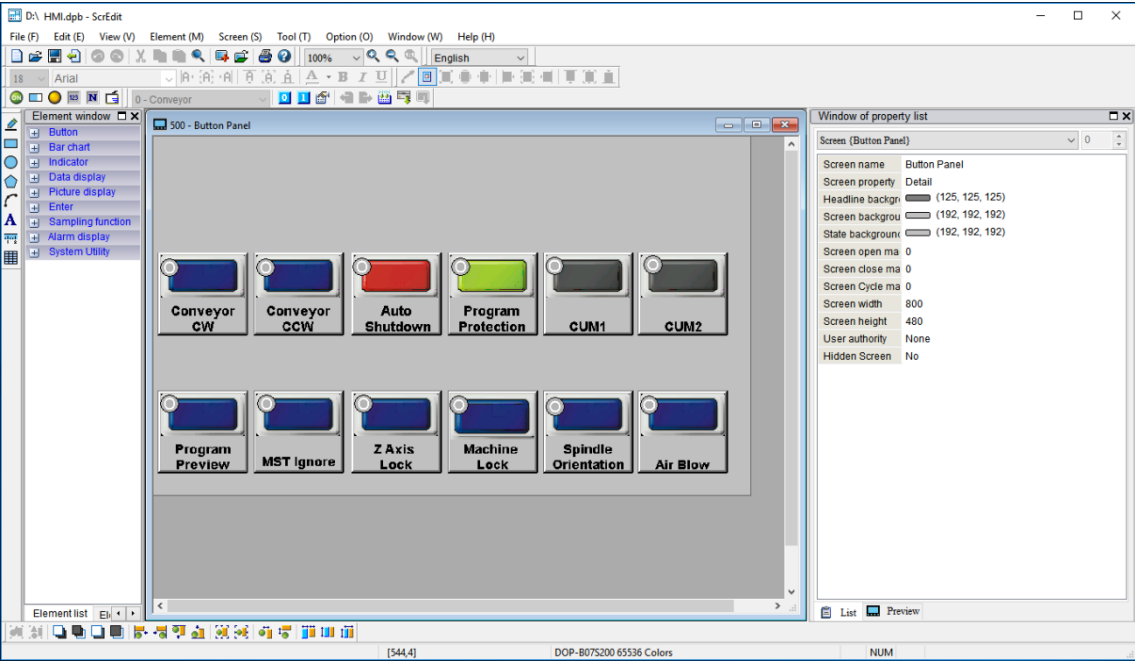

Figure 13.1.2
■ Enter ScreenEditor, and you can see the operation interface as shown in Figure 13.1.2.